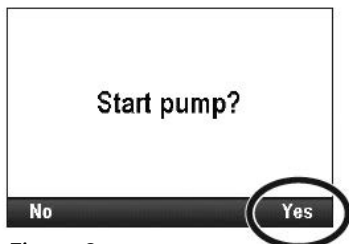

Figure 9:
2. When **Start Pump?** appears, press **Yes**. See Figure 9.